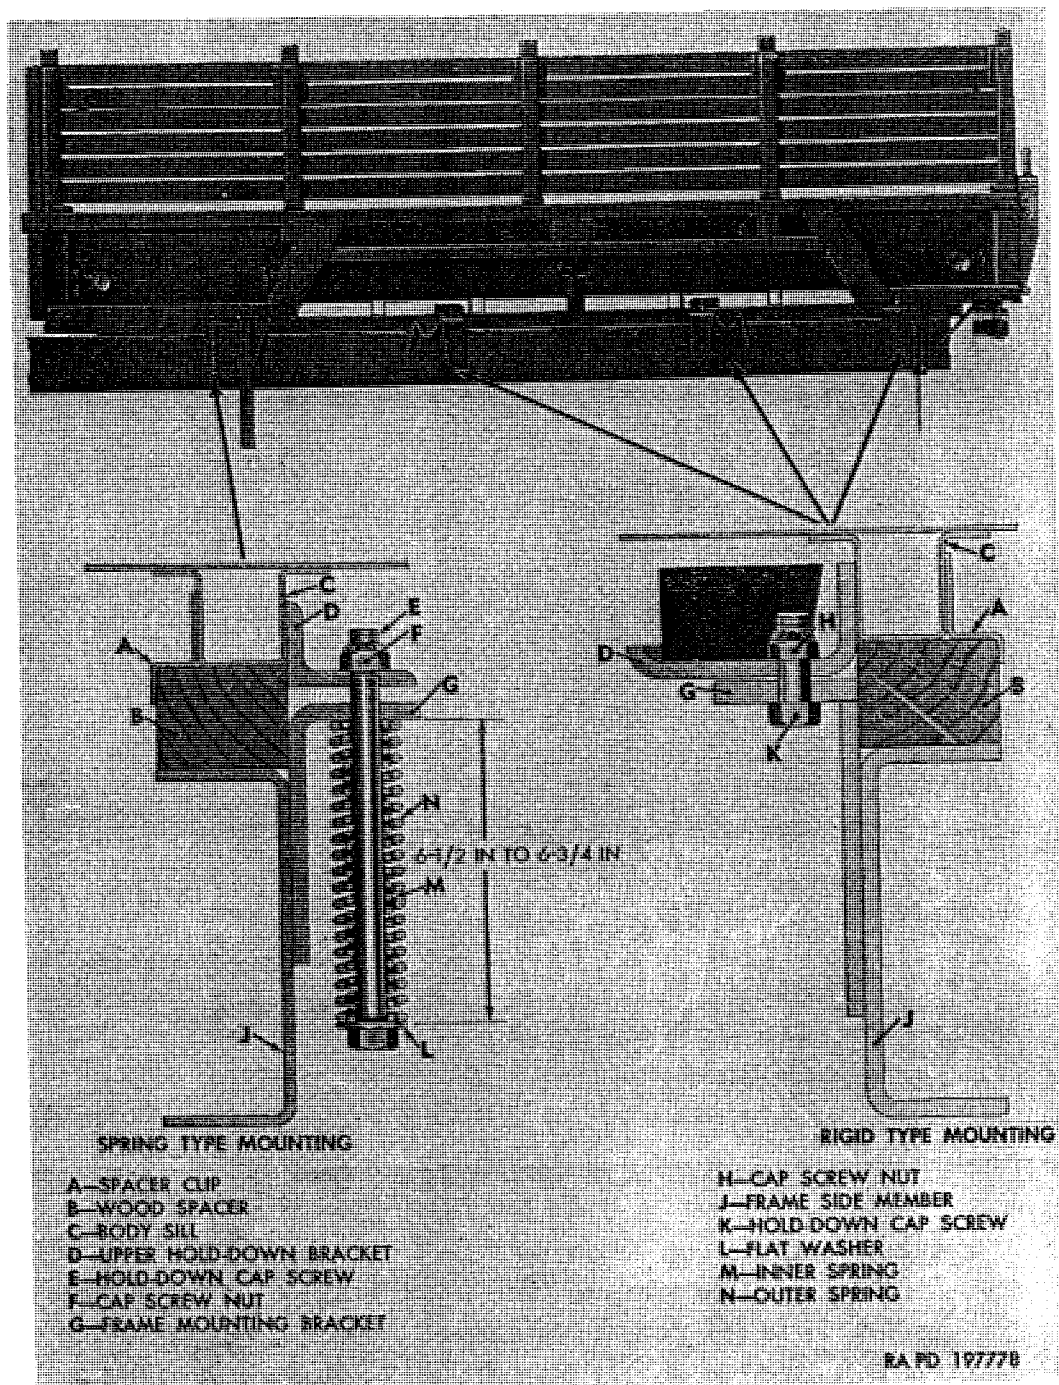

Figure 334. M135 cargo body mounting.
a. *M135 Cargo Body* (fig. 334). Body is mounted to frame side members as shown in figure 334. Dual spring-type mounting is used at each front corner of body. Three rigid-type mountings are used at each side in addition to the spring-type front mountings.
- (1) *Tightening.* At intervals indicated in table V, mounting cap screws must be checked for condition and tightness. The